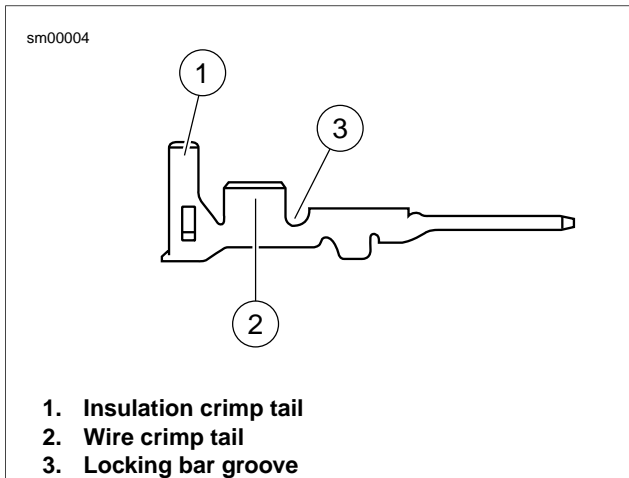
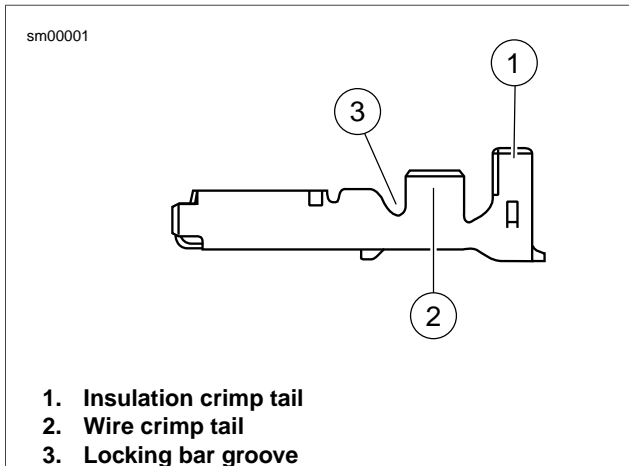

Figure A-6. AMP Multilock Connector: Pin Terminal
Figure A-7. AMP Multilock Connector: Socket Terminal
- See Figure A-6 and Figure A-7. Select the pin/socket terminals from the parts catalog and identify the insulation crimp tails (1) and the wire crimp tails (2) and the groove for the crimp tool locking bar (3).
See Figure A-6 and Figure A-7. Hold the terminal with the insulation crimp tail (1) facing up. The tool will hold the terminal by the locking bar groove (3) and crimp the wire crimp tail (2) around the bare wire of the stripped lead and the insulation crimp tail around the insulation.